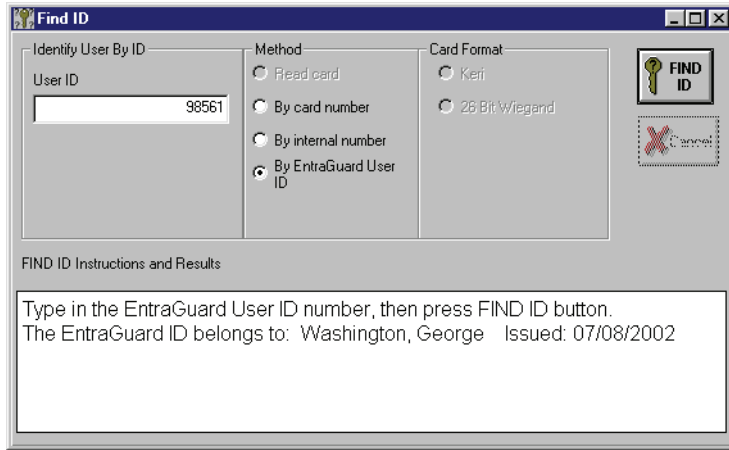

Figure 10-57: Find User ID Window With Results
1. To identify an unknown User ID, click on the Reports ⇒ Find ID Card pull-down menu. The Find ID window appears (see Figure 10-57).
5. The user’s name and date of issue is displayed in the “Find ID Instructions and Results” field (see Figure 10-57).